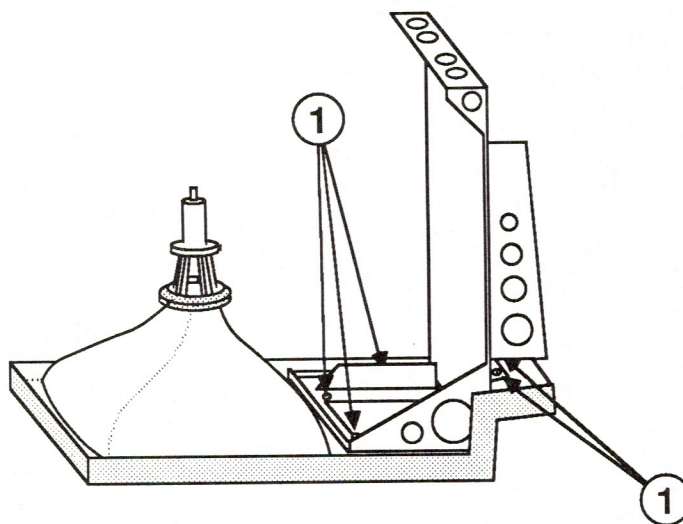

FIGURE 30
5. Remove the five Torx screws (Figure 30, #1) that secure the metal chassis to the bezel, and lift out the chassis, with disk drive(s) attached.
5. Replace the metal chassis, with disk drive(s) attached, and fasten it to the bezel with the five Torx screws (Figure 30, #1).